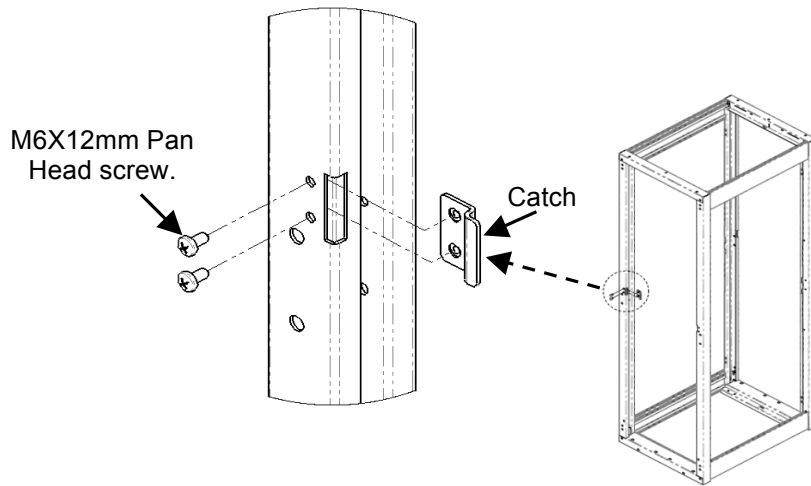

Fig. 6
1. Install the Catch in the upper cut-out in the frame opposite the hinges, fastening with M6x12mm screw.(Fig.6)